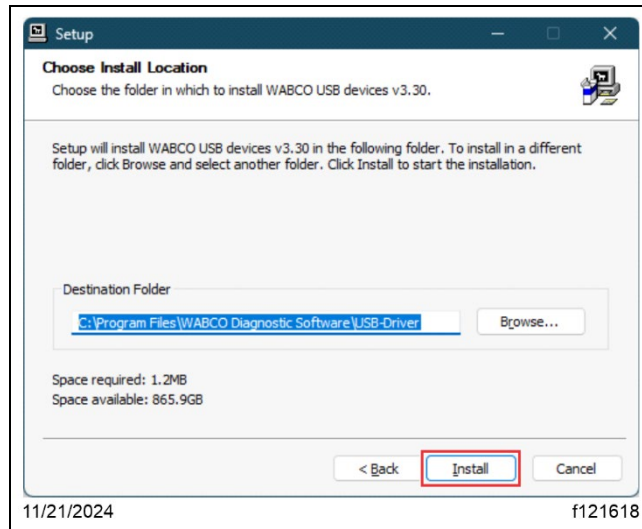

Fig. 42, Choosing the Install Location
7.14. On the 'Choose Install Location' screen, verify the destination folder, then select 'Install.' See Fig. 42.